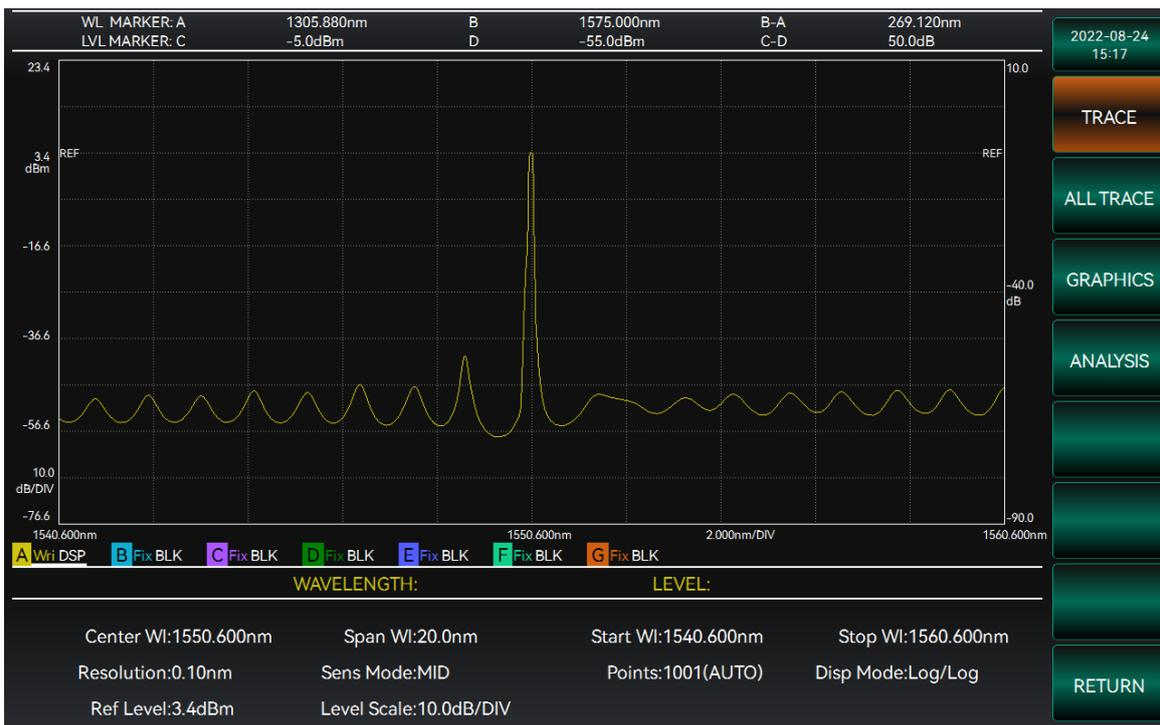

Figure 3-14 Save type selection interface diagram
1. Select the [Save Type] option to enter the Type Selection interface, as shown in Figure 3-14.